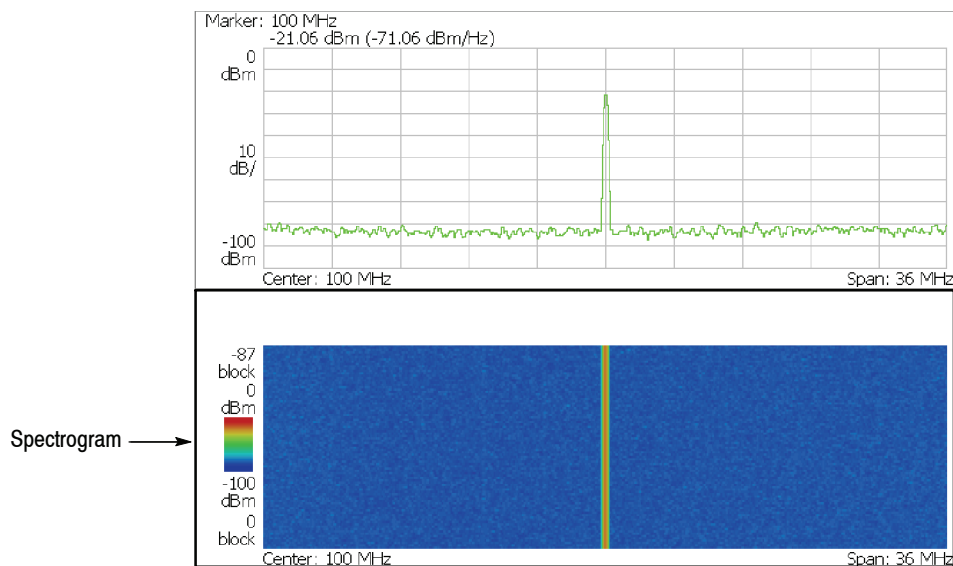

**Figure 4-3: Reference level setting and A/D overflow indicator**
- b. Make sure that the reference level is set to 0 dBm with the **Ref Level** side key. Check that 0 dBm is displayed on the upper left side of the graticule (see Figure 4-3).
- d. Confirm that A/D OVERFLOW is indicated in the red box at the top center of the screen. Make sure that -30 dBm is displayed on the upper left side of the graticule and that the spectrum waveform is distorted as shown in Figure 4-3.